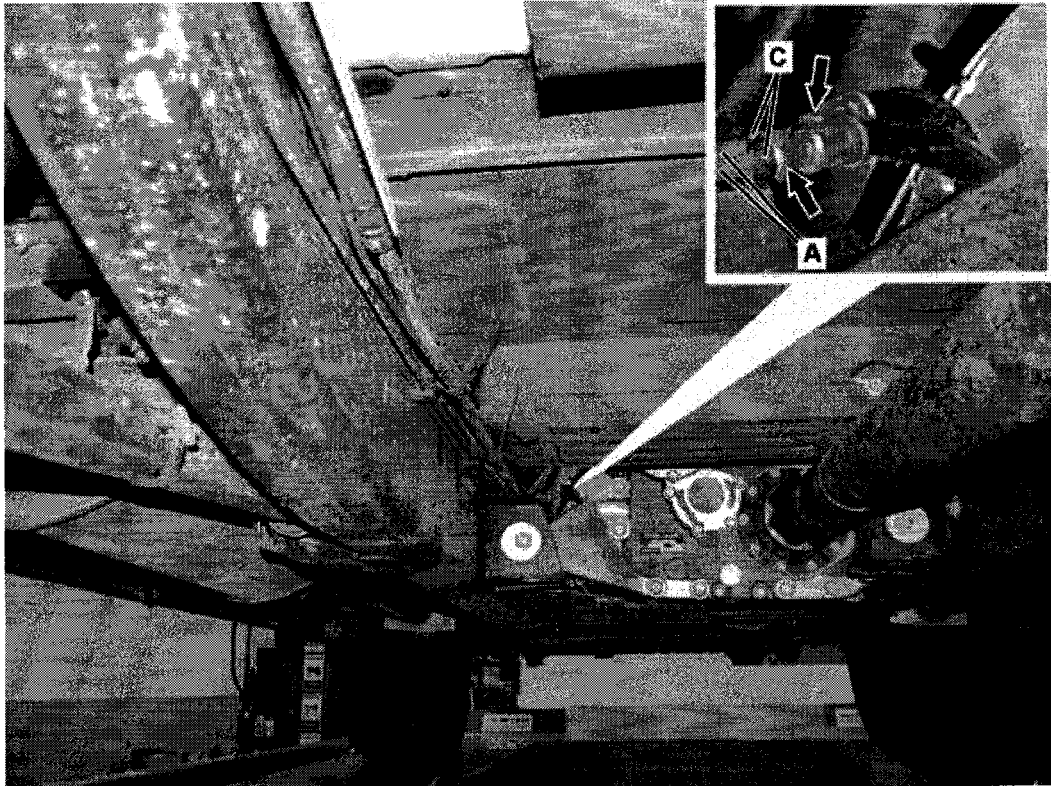

Figure 6 (2 fuel line connections located near the transfer case)
- Refer also to Figures 6 and 7 for on-vehicle connector locations.